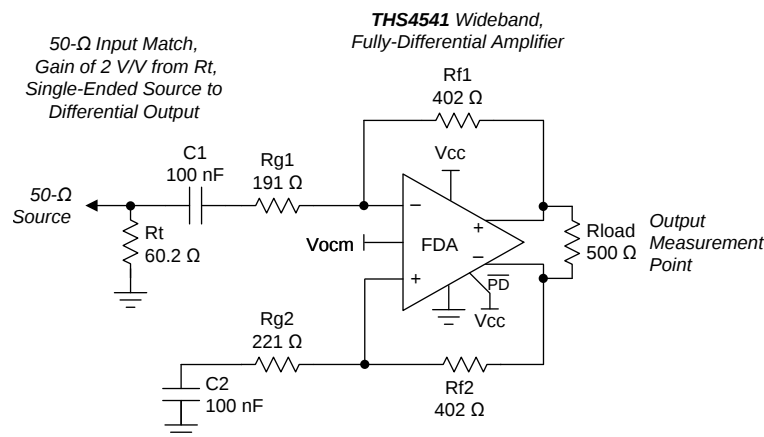
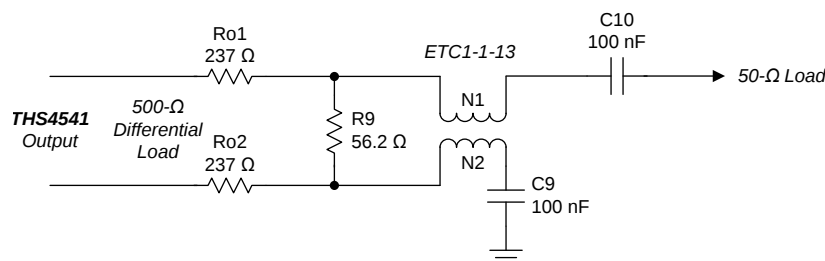
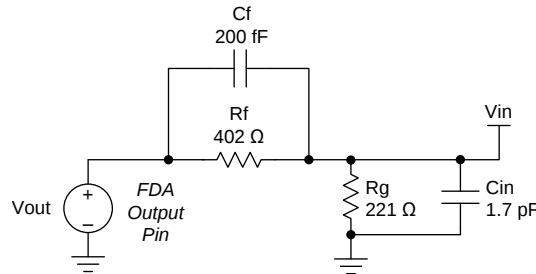
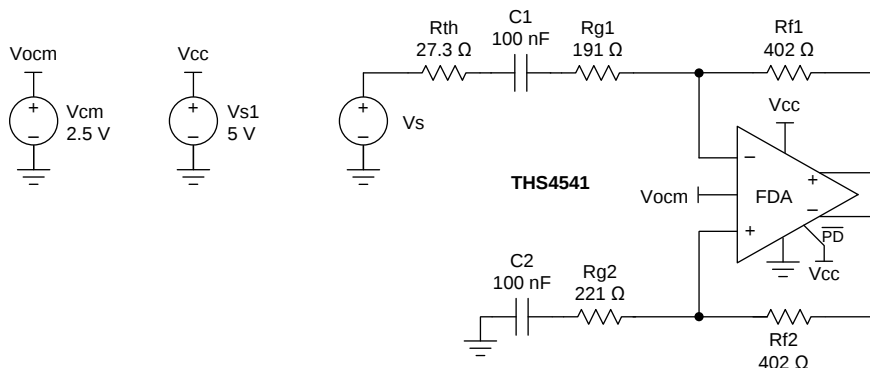

Figure 61. AC-Coupled, Single-Ended Source to a Differential Gain of a 2-V/V Test Circuit
Figure 62. Example 500- Ω Load to a Single-Ended, Doubly-Terminated, AC-Coupled, 50- Ω Interface
Figure 65. Feedback Network for the Gain of 2 Configuration Using 402 Ω and Matching to a 50-Ω Source
Figure 68. Input Swing Analysis Circuit from Figure 61 with Thevenized Source
$G = 5\text{ V/V}$, 50-MHz input, 0.3-ns input edge rate, single-ended input to differential output, see Figure 61
2- V_{PP} output, see Figure 61 with $V_{S+} = 3.0\text{ V}$, $V_{ocm} = 1.5\text{ V}$
$f = 10\text{ MHz}$, see Figure 61 with $V_{S+} = 3.0\text{ V}$, $V_{ocm} = 1.5\text{ V}$
1 V_{PP} each tone, see Figure 61 with $V_{S+} = 3.0\text{ V}$, $V_{ocm} = 1.5\text{ V}$
$f = 10\text{ MHz}$, 2- V_{PP} output, see Figure 61 and Table 6 for gain setting
Single-ended input to differential output, simulated differential output impedance, (closed-loop) gain of 2 and 5, see Figure 61
Single-ended input to differential output, gain of 2 (see Figure 61), simulated with 1% resistor, worst-case mismatch
Single-ended to differential, gain of 2 (see Figure 61) PSRR simulated to differential output
Single-ended to differential gain of 2 (see Figure 61), PSRR for negative supply to differential output (1-kHz simulation)
Single-ended to differential gain of 2 (see Figure 61), PSRR for positive supply to differential output (1-kHz simulation)
Because most lab equipment is single-ended, the characterization circuits typically operate with a single-ended, matched, 50-Ω input termination to a differential output at the FDA output pins. That output is then translated back to single-ended through a variety of baluns (or transformers) depending on the test and frequency range. DC-coupled, step-response testing uses two 50-Ω scope inputs with trace math. The starting point for any single-ended-to-differential, ac-coupled characterization plot is shown in Figure 61.
Most characterization plots fix the R_f ($R_{f1} = R_{f2}$) value at 402 Ω, as shown in Figure 61. This element value is completely flexible in application, but the 402 Ω provides a good compromise for the parasitic issues linked to this value, specifically:
- Added output loading. The FDA appears like an inverting op amp design with both feedback resistors as an added load across the outputs (approximate total differential load in Figure 61 is 500 Ω || 804 Ω = 308 Ω).
The frequency domain characterization curves start with the selections of Figure 61. Then, various elements are modified to show their impact over a range of design targets, specifically:
Because most network and spectrum analyzers are a single-ended input, the output network on the THS4541 characterization tests typically show the desired load connected through a balun to a single-ended, 50- Ω load, while presenting a 50- Ω source from the balun output back into the balun. For instance, Figure 62 shows a wideband MA/Com balun used for Figure 61. This network shows a 500- Ω differential load to the THS4541, but an ac-coupled, 50- Ω source to the network analyzer. Distortion testing typically uses a lower-frequency, dc-isolated balun (such as the TT1-6T) that is rotated 90° from the wider band interface of Figure 62.
Figure 1 illustrates the small-signal response shape versus gain using a fixed 402-Ω feedback resistor in the circuit of Figure 61. Being a voltage-feedback based FDA, the THS4541 shows a response shape that varies with gain setting, largely determined by the loop-gain crossover frequency and phase margin at the crossover. This loop-gain crossover frequency is where the open-loop response and the noise gain intersect (where the loop gain drops to 1). The noise gain is the inverse of the voltage divider from the outputs back to the differential inputs; use a balanced divider ratio on each feedback path. In general, the noise gain (NG) does not equal the signal gain for designs providing an input match from a source impedance. NG is given by $1 + R_f / (\text{total impedance from the inverting summing junction to ground})$. Using the resistor values computed in the gain sweep of Table 6, and repeating that sweep showing the NG gives Table 1, where only the exact R solutions are shown.
NG is critically important for bandwidth and all output error terms (such as dc offset and noise). For lower-speed devices, normally only the dc noise gain is considered. However, for the THS4541, with loop gain crossover at greater than 300 MHz, the feedback network produces a parasitic pole to the differential summing junctions that causes the noise gain to increase with frequency. This pole causes a lower crossover frequency than might be expected with added phase shift around the loop. Consider the feedback network (single-ended) of Figure 65, showing a parasitic 0.2 pF on the feedback 402-Ω resistor. The 0.85-pF differential input capacitance of the THS4541 is converted to single-ended as a 1.7-pF parasitic for this single-sided analysis circuit (the Rg shown is Figure 61).
The response shape from Vout to Vin in Figure 65 has a pole and then a zero. To describe NG, invert the Laplace transform of Vin and Vout from Figure 65 to provide the frequency-dependent NG response of Equation 1, where a zero comes in first and then a pole.
The zero location is key. Using the gain of 2 values of Figure 65, the estimated zero in the NG is 588 MHz. Limiting the parasitic capacitance at the summing junctions, either differentially or signal-ended, to a ground or power plane is critical in board layouts.
One method of deriving the voltage range for V_{cm} for any single-ended input to differential output design is to determine the voltage swing on the nonsignal-input side of the FDA outputs and simply take its divider back to the input pin to ground or the dc reference used on that side. An example analysis is shown in Figure 68, where the circuit of Figure 61 is simplified to show just a Thevenized source impedance.